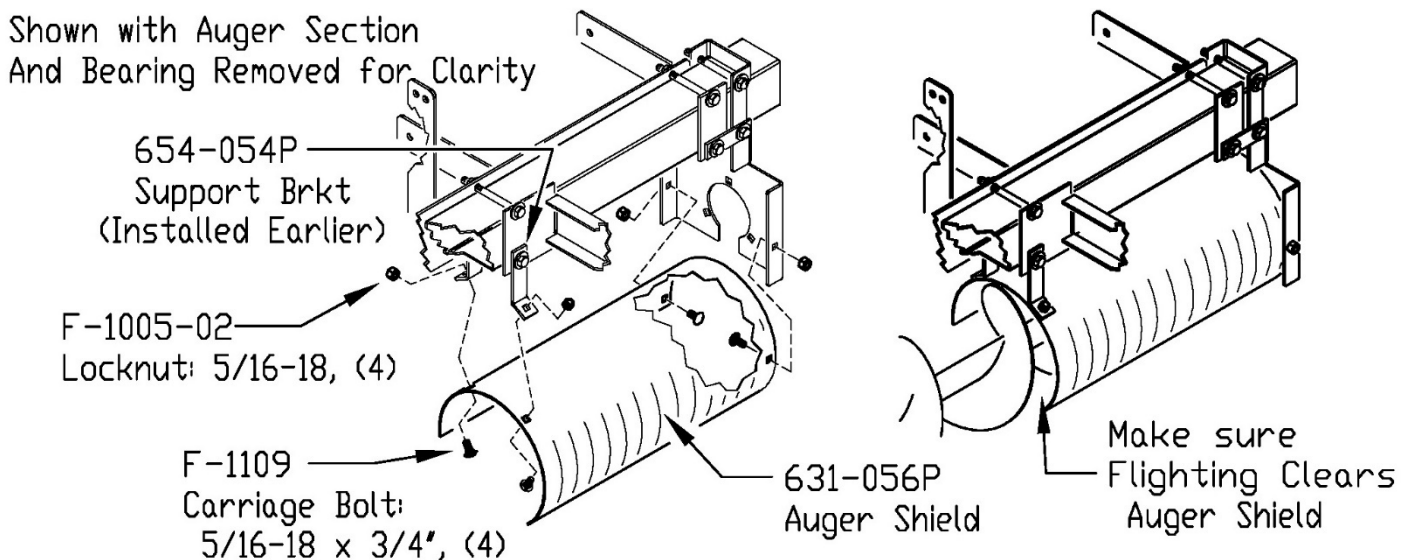

Fig 11.2
**11b. Install the Auger Shield** and assemble it as shown in Fig 11.2 to the assembly mounted earlier on the 3" tube. Note: The front edge will be lower than the back edge. Also make sure the flitting clears the Shield.